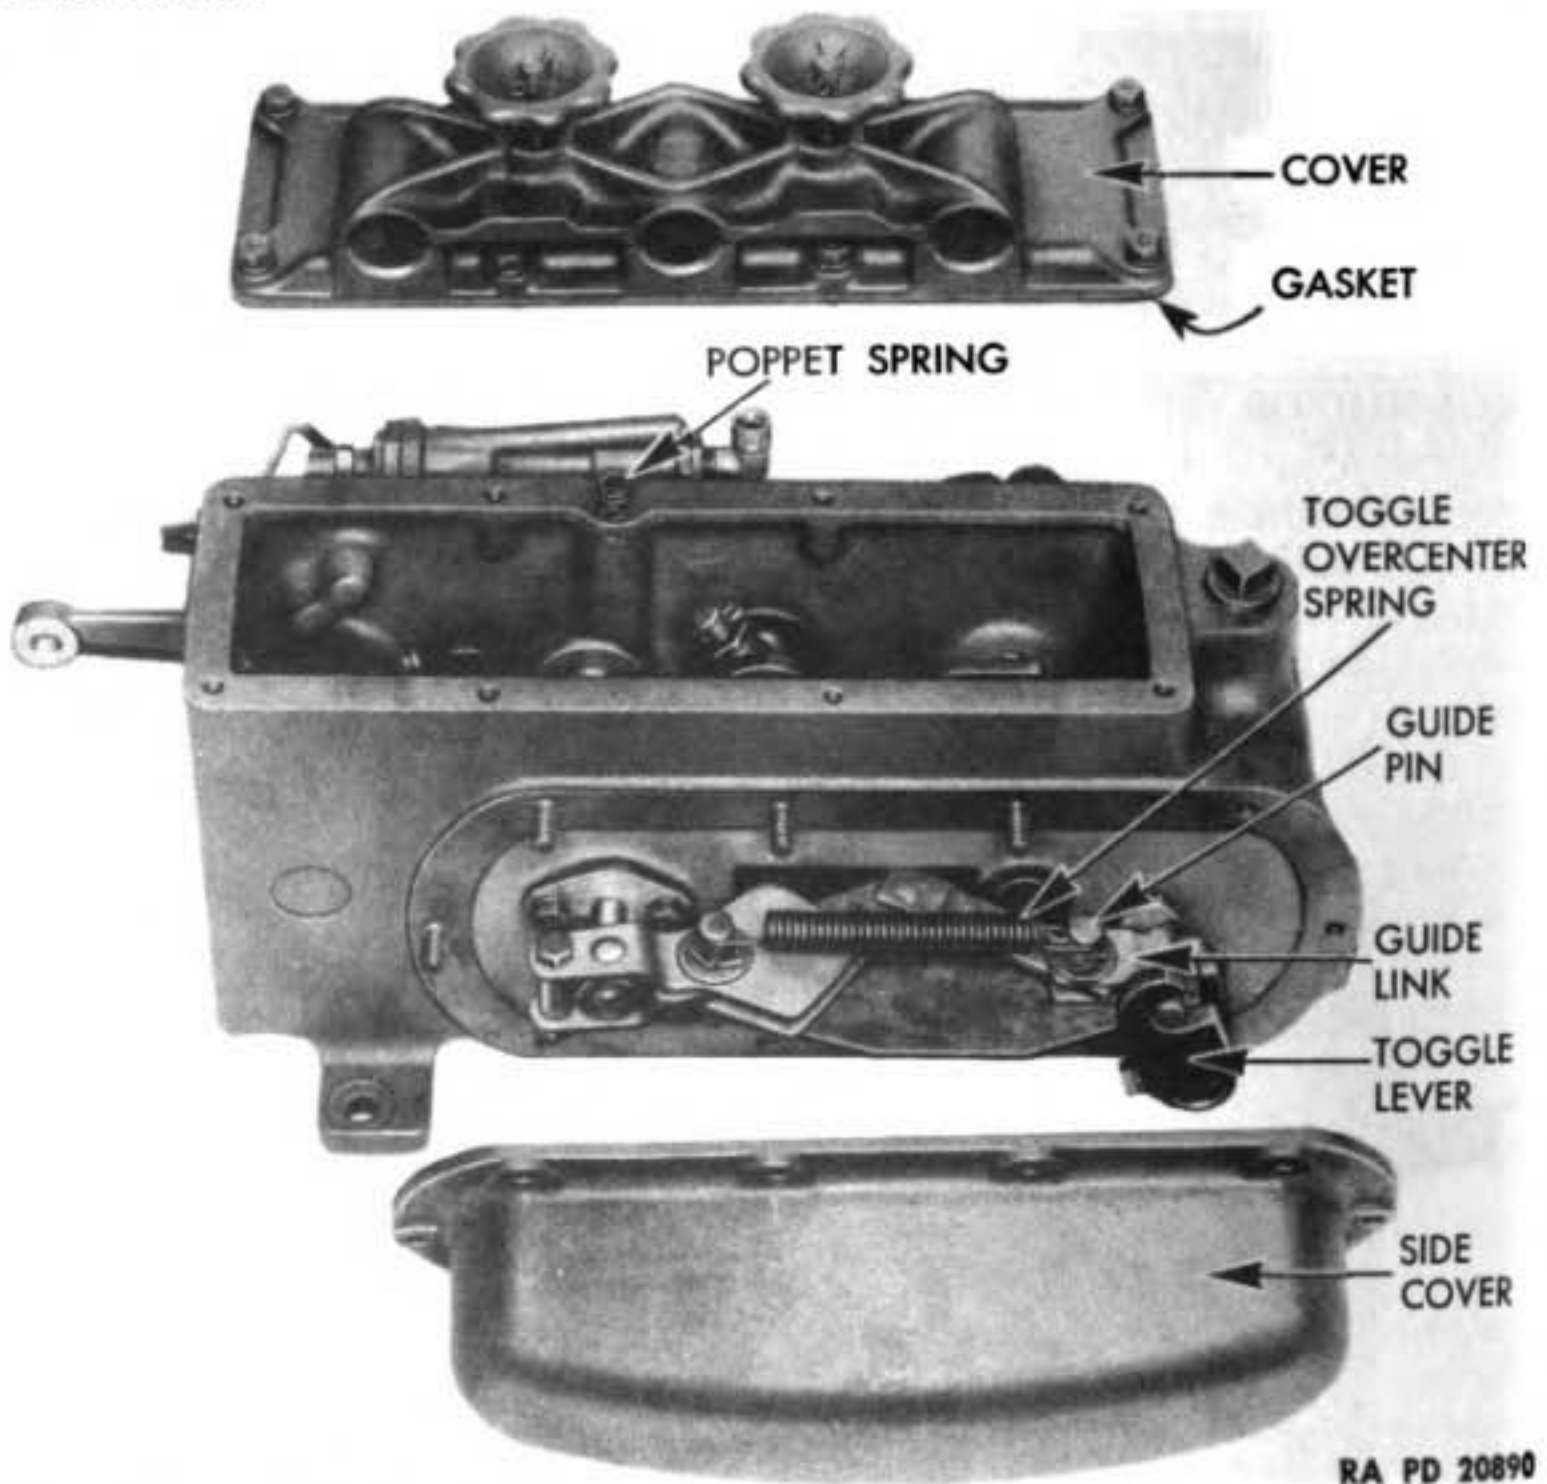

Figure 161 — Cover and Side Cover Removed from Clutch Selector Housing
(2) **REMOVE CLUTCH SELECTOR HOUSING COVER** (fig. 161). Remove eight cap screws with lock washers attaching cover to housing. Remove cover and gasket.
(3) **REMOVE CLUTCH SELECTOR HOUSING SIDE COVER** (fig. 161). Remove 6 cap screws, 4 nuts, and 10 lock washers attaching side cover to housing. Remove side cover and gasket from housing.
(12) **INSTALL CLUTCH SELECTOR HOUSING SIDE COVER** (fig. 161). Attach new gasket and cover to clutch selector housing with 6 cap screws, 4 nuts, and 10 lock washers.
(13) **INSTALL CLUTCH SELECTOR HOUSING COVER** (fig. 161). Place new gasket and cover in position on housing, and attach with eight cap screws and lock washers.